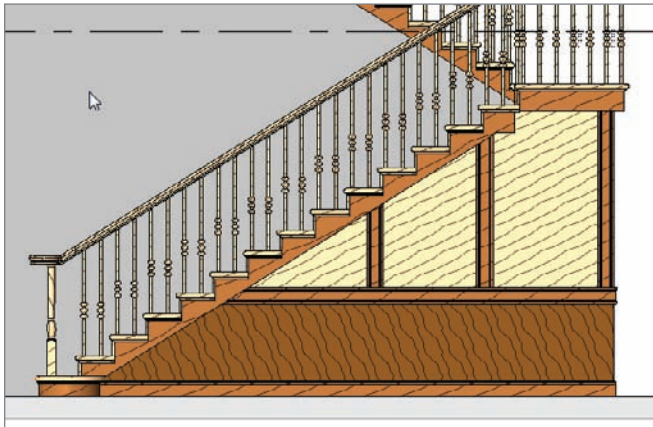

FIGURE 16.20 The finished south wall of the stairs
17. Repeat the procedure so your elevation looks like Figure 16.20.